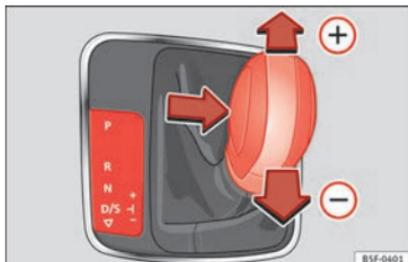

Fig. 171 Changing gear with Tiptronic.
- Lightly press the selector lever forward ►► Fig. 171 (+) to change up to a higher gear.
- Lightly press the selector lever backward ►► Fig. 171 (-) to change down to a lower gear.